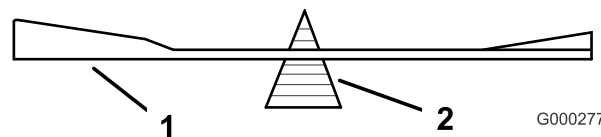

Figure 64
2. Check the balance of the blade by putting it on a blade balancer (Figure 64). If the blade stays in a horizontal position, the blade is balanced and can be used. If the blade is not balanced, file some metal off the end of the sail area only (Figure 64). Repeat this procedure until the blade is balanced.